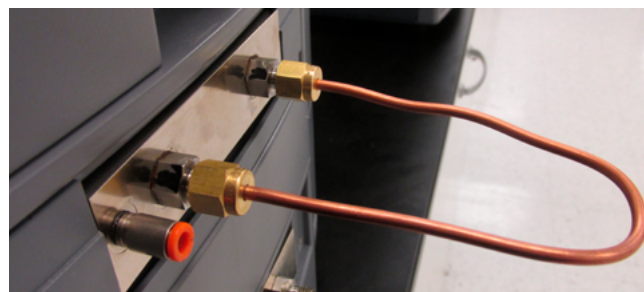

Figure 4. Attach a loop for testing baseline.
- Do not perform Individual zero when the sample is surrounded by test gas such as ambient air, with generated RH or with 100% RH. Instead, perform a WVTR (or OTR) test for a copper tubing loop separately (Fig 4). Subtract the Loop WVTR (or OTR) value when it is necessary (such as when the sample's TR is very low).